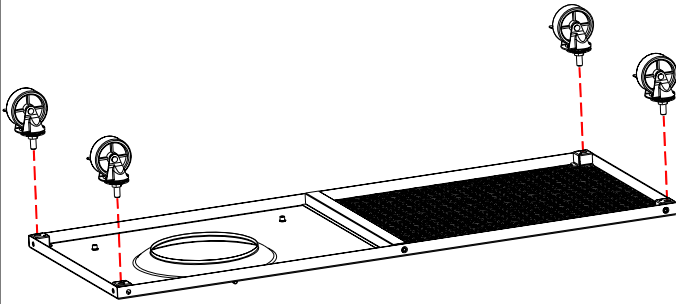

Fig.5
Procedure: Refer to Fig. 5, and screw a Caster Wheel into each of the (4) corners of the bottom of the Bottom Shelf. Then, using the wrench, tighten the nut holding the Caster wheel securely.